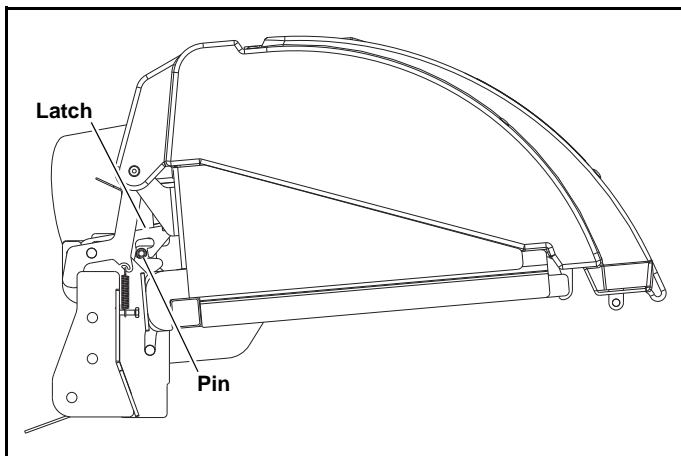

Figure 3-11
3. Slide the hood assembly's lower pivot pins into the slots in the pivot mount assembly. Figure 3-11
latch. Figure 3-11